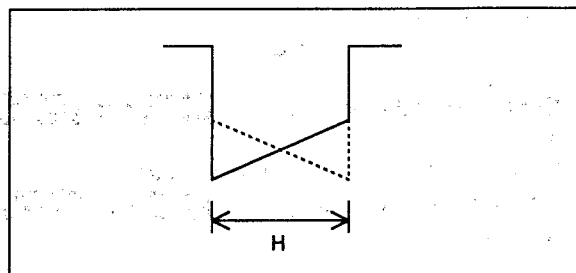

Fig. 43
3. Adjust R3534 (Colour shading correction) to achieve waveform as shown in Fig. 43.
5. Confirm that the waveform is Fig. 43.